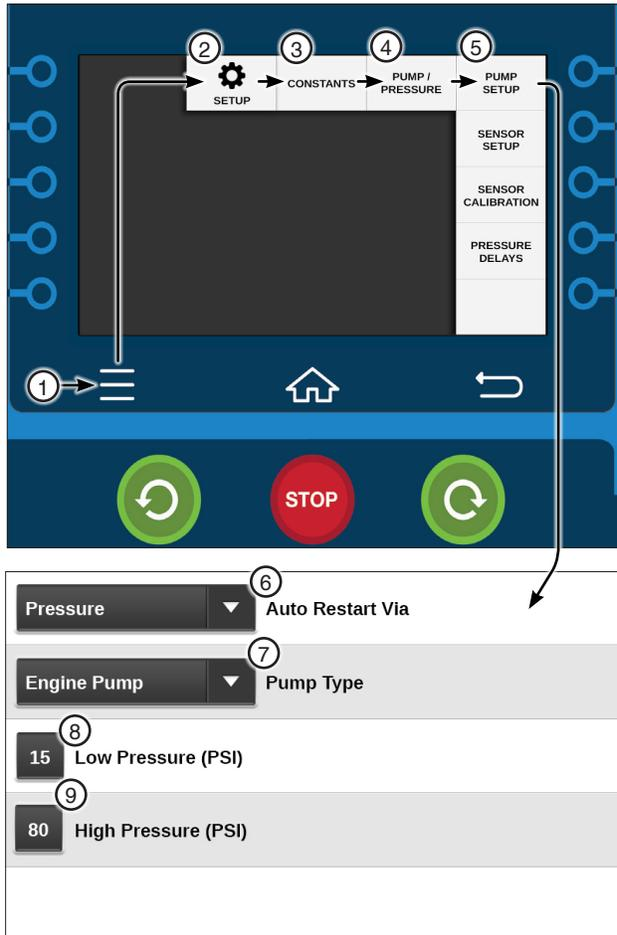

Figure 30-1 1. Menu 2. Setup 3. Constants 4. Pump / Pressure 5. Pump Setup 6. Auto Restart Via 7. Pump Type 8. Low Pressure 9. High Pressure
1. Push **Menu**, **Setup**, **Constants**, **Pump / Pressure** and **Pump Setup**. Refer to Figure 30-1.
- a) Select the **Auto Restart Via** drop-down menu. Refer to Figure 30-1.